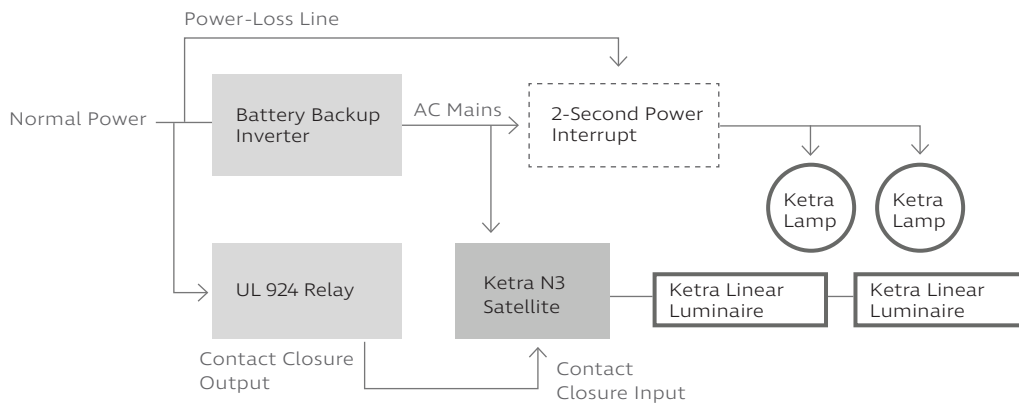

fig. 3
- If the UPS does not support contact-closure output, use a relay instead, as shown in fig. 3.